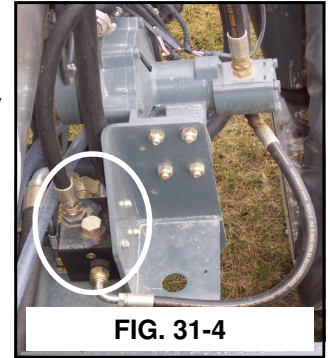

FIG. 31-4
**RAVEN SPRAY SYSTEMS CONSOLE**– The spray system is controlled by the Raven SCS 4600 (fig. 31-3) and the Pulse Width Modulated Valve (fig. 31-4). The system receives data and automatically makes adjustments based on the target rate of application set by the operator.